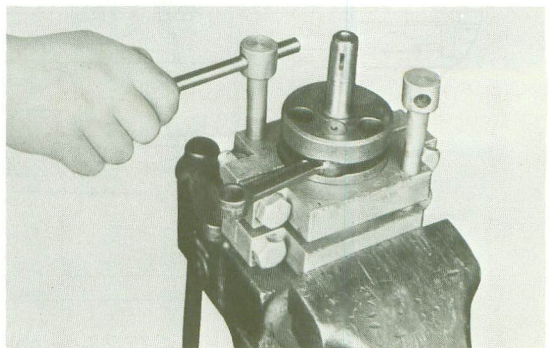

Fig. 4-17-8
- (4) Hold the crankshaft ass'y in a vice, and disassemble the ass'y into two parts by alternately giving one turn to each bolt (3) which is installed on the tool (2), so that the crankshaft ass'y splits into two parts. (Fig. 4-17-8)